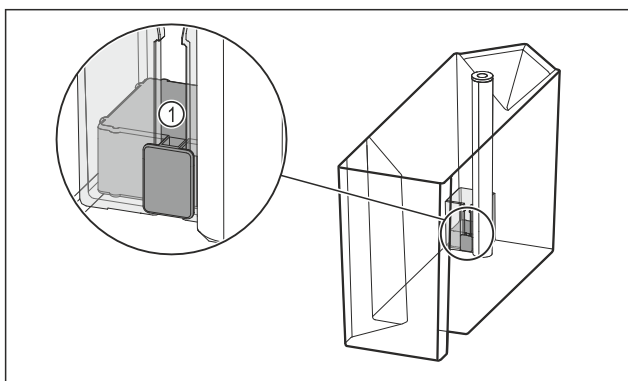

Fig. 96
- ▶ Check whether the float Fig. 96 (1) is jammed. If the float is jammed: